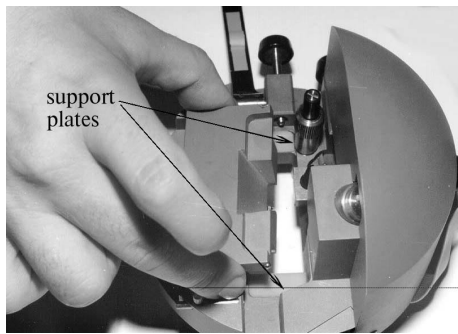
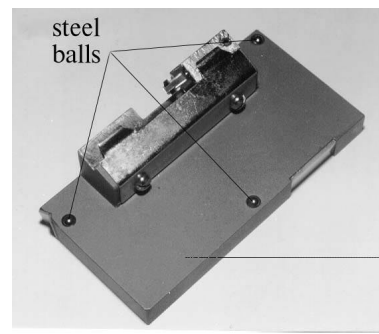

**Fig. 132**
**Fig. 133**
#### 3.2.4.1 Basic elements of the SFM head (Fig. 132, Fig. 133):
Put the SFM-head on a level surface over a sheet of a white paper. Loosen the screws (1,2) and open the clamp bar (3) (Fig. 132, Fig. 133). Put the SFM movable insert with mounted cantilever (see section 3.2.2) (Fig. 135) into SFM head (Fig. 134). Three steel balls of the movable insert should stand on three support plates of SFM head. Fasten the adjusting screws (1, 2) to touch the movable insert and correct the insert position to touch screws with the V-shaped groove and flat plate correspondingly. Then rotate the knob (3) (Fig. 132, Fig. 133) to let spring plunger push the insert. Put the clamp bar (4) on the insert but do not fix it with the catch (5).
Move the insert by the screws (1, 2) (Fig. 132, Fig. 133) to adjust the cantilever to the focused laser beam. You should see a bright spot on the end of cantilever.
Set some positive values in both windows (Fig. 143) by means of photodiode adjusting screws (6, 7) (Fig. 133). Slightly move cantilever about focused beam by rotating adjusting screw (1) (Fig. 133) to get the maximum signal value in any window (Fig. 144). Then slightly move it along another direction by the screw (2) (Fig. 133) to get maximum signal value (with cantilever with triangular area at its end) again in the same window (Fig. 145).
Put the head back on a table. Press the movable insert with the clamp bar (4) and fix it with the catch (5) (Fig. 133).
Photodiode adjusting screws (6,7) (Fig. 133) are used to align it with the reflected beam.
Signal value in the window "LF" should always be adjusted to zero. Signal value in the window "NF", in case of work in a contact mode, before landing is shifted by the screw 6 (Fig. 133) into **NEGATIVE** area. The magnitude "NF" is proportional to a value of a repulsive force between a probe and surface of a sample and depends both on a type and geometry of a cantilever and investigated sample. Value "NF" can change from  $-3\text{ nA}$  up to  $-20\text{ nA}$ . For operation in the modulation mode the "NF" signal must be set to the zero position.